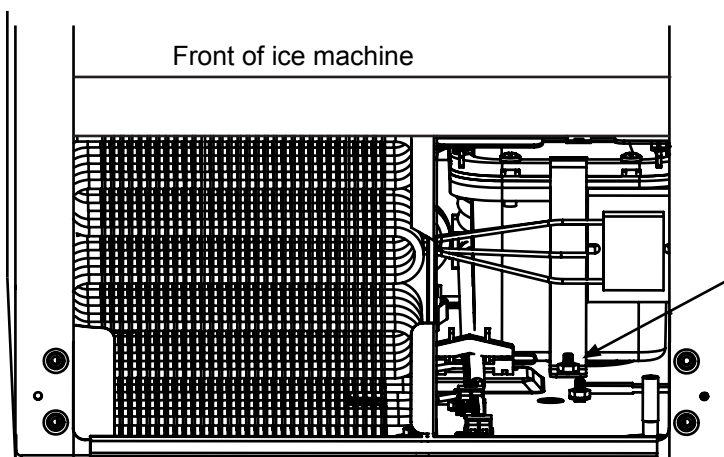

Figure 53
3. Remove the front and rear drain pump brackets. See Figures 53, 53a and 54.